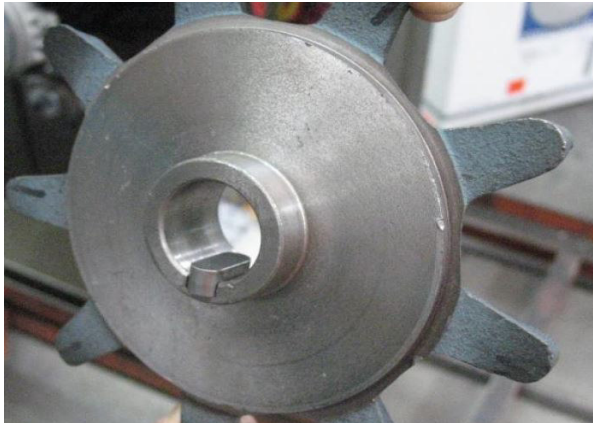

Fig. 26: Insert key into groove
Step 4: Insert the key into the groove provided in the fan wheel (Fig 26).